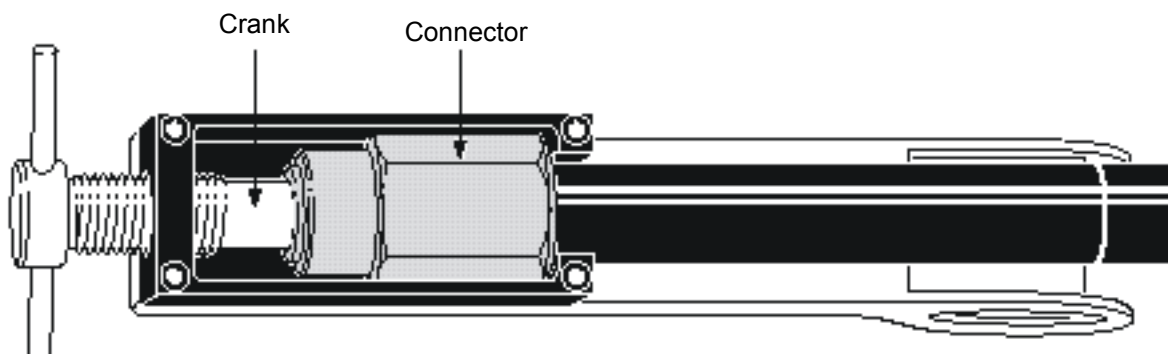

Figure 34 – Fitting the connector
- Remove the connector cap and insert the connector into the activator tool (the center conductor fits into the hole in the crank). Turn the handle to tighten the activator until it stops, then back off the activator and remove the connector; see *Figure 34*.